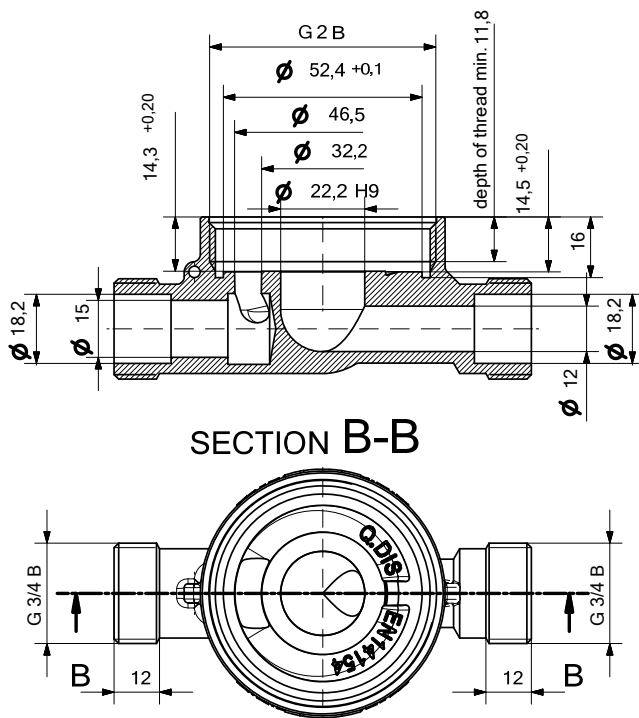

Fig. 5: EAT
- If a pre-installed EAT is in place, ensure that it corresponds to the drawing in Fig. 5..